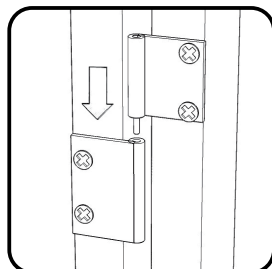

Figure 7
Attach Doors (N) and (O) to unit by sliding the door lift hinges into the side panel left hinges. (See Figure 7)